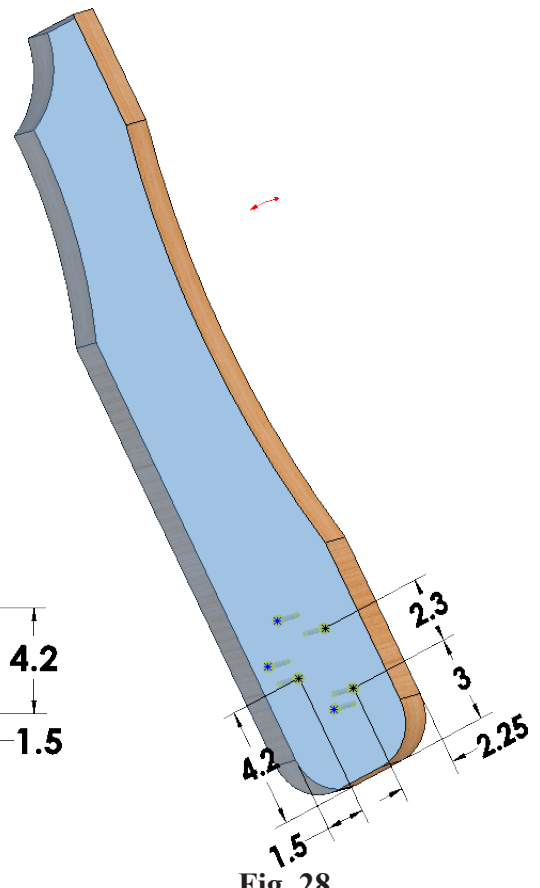

Fig. 28
Step 12. Rotate view to view **bottom side face of Arm**, hold down middle mouse button (wheel) and drag to rotate view, **Fig. 28**.
Step 14. Click **bottom side face 3 times** to **place 3 Points**, **Fig. 28**.